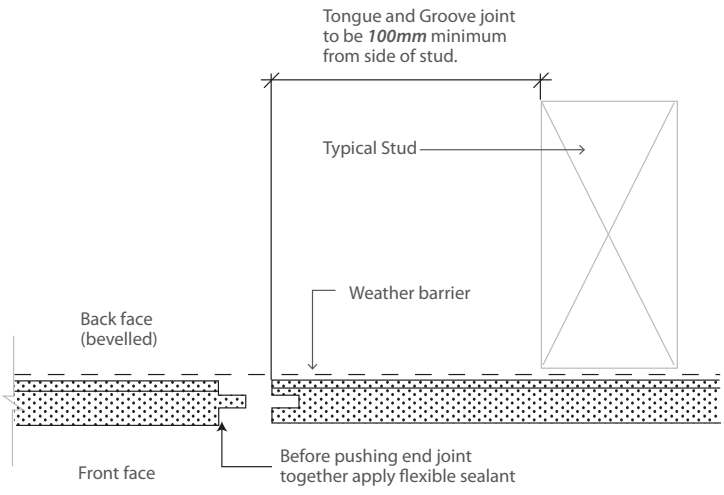
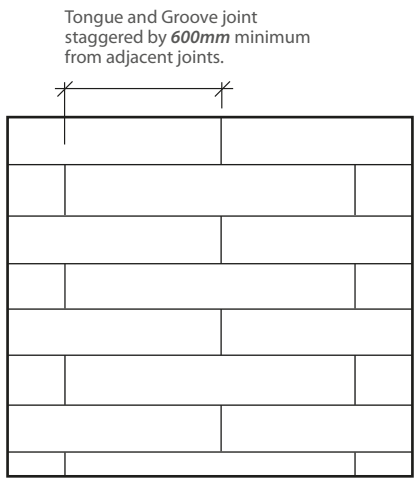

Figure 87 : Tongue and Groove Joint
Figure 88 : Staggered Joints
12. The ends of **PRIMAalpha** WeatherClad are joined off-stud by means of tongue and groove joints must be at minimum of 100mm from the side of a stud, refer Figure 87. Joints must be staggered by a minimum of 600mm from the adjacent joints, refer Figure 88.